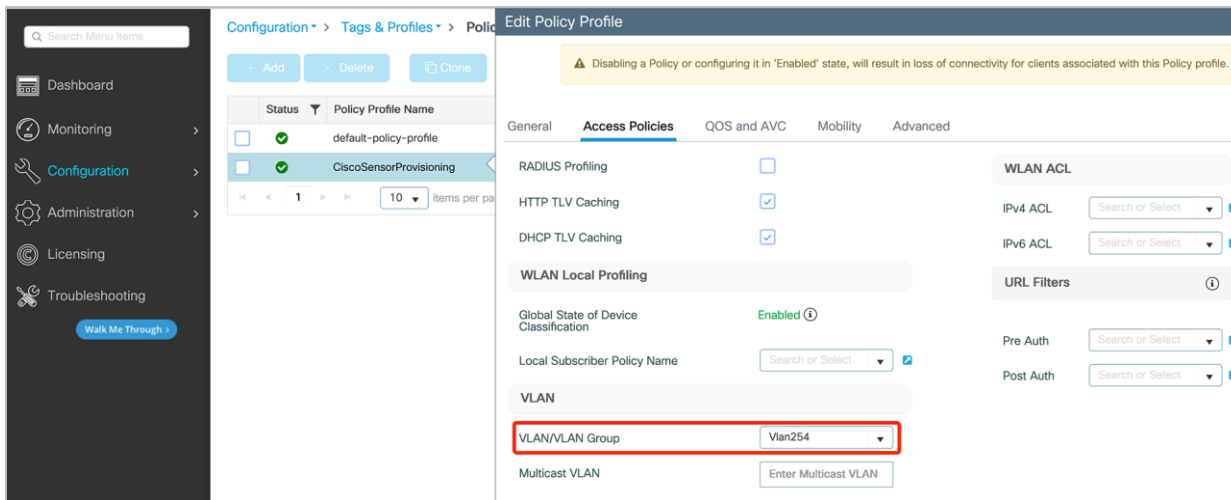

Figure 19.
- After adding the policy tag, edit the tag to input the VLAN interface of the SSID by going to Configuration>Tags and Profiles>Policy, edit CiscoSensorProvisioning Policy Profile, go to Access Policies tab, in the VLAN section add VLAN/VLAN Group (**Figure 19**).